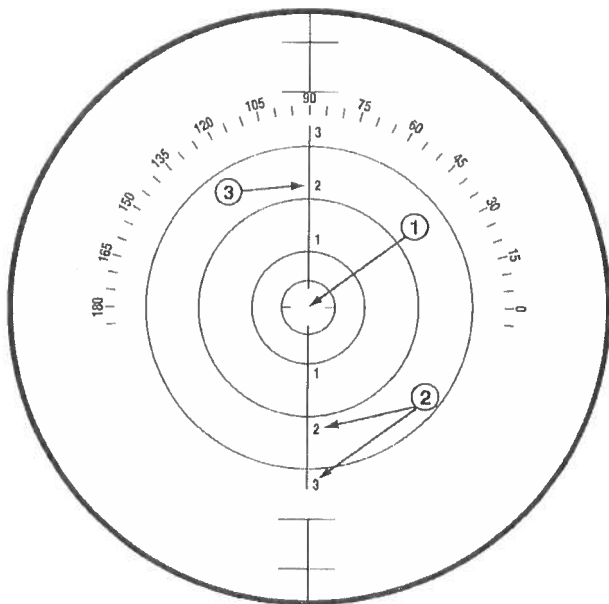

Figure 2
THE EYEPIECE (Figure 1, No. 1): The telescope is composed of an eye lens; a reticle (Figure 2), rotatable and calibrated for prism evaluation, and an objective lens. The eye lens is mounted in a screw-type focusing mechanism with a range from +5 diopters to -5 diopters to compensate for different individual requirements. This lens adjustment permits critical focus on the reticle for each individual's needs.
1. Hold a piece of white paper at an angle between the lens stop and the prism compensating device so as to reflect light into the telescope. Look at the lines of the reticle (Figure 2). They should be sharply in focus.